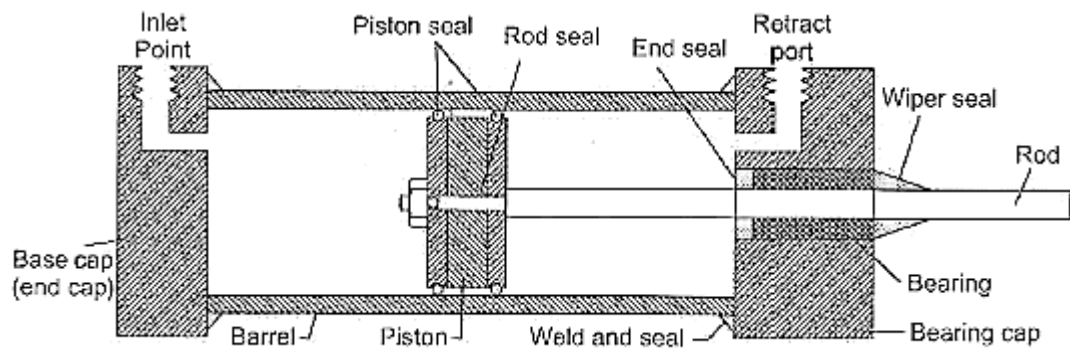

Fig.5.7 Construction features of double acting cylinder
- ▶ The construction of a double acting cylinder is shown in Fig.5.7 and is similar to that of a single cylinder except that there is no return spring. In a double acting cylinder, air pressure can be applied to either side (supply or exhaust) of the piston, thereby providing a pneumatic force in both directions. Double acting cylinders are most commonly used in applications where a longer